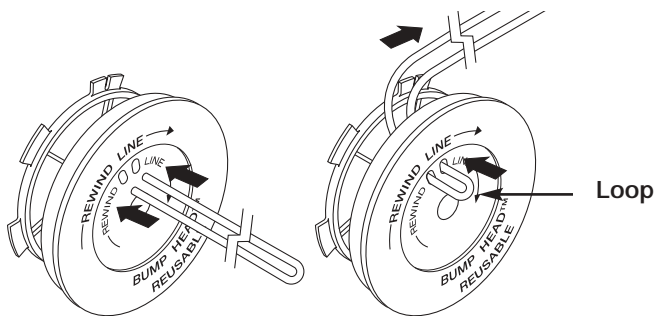

Fig. 35
- Take approximately 6 m (20 feet) of new trimming line, loop it into two equal lengths. Insert each end of the line through one of the two holes in the inner reel (Fig. 35). Pull the line through the inner reel so that the loop is as small as possible.